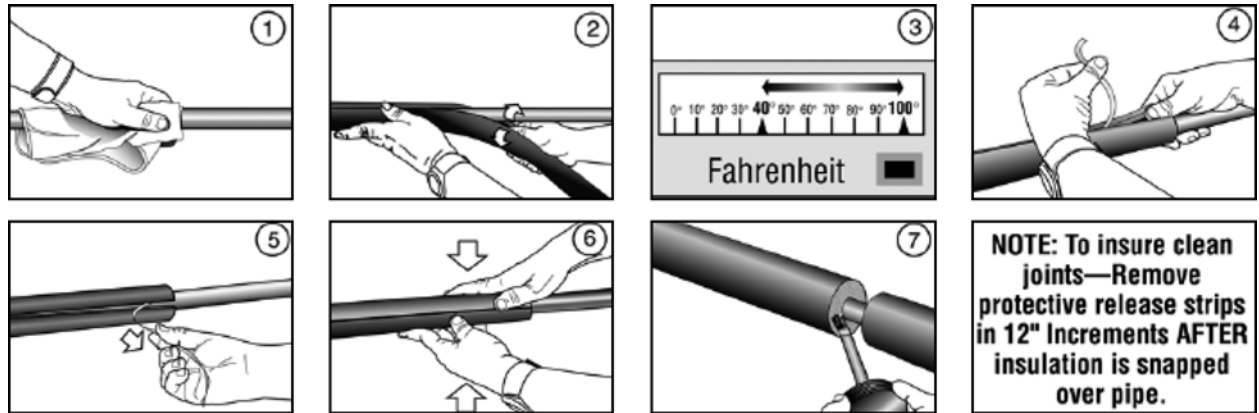

FIG. 4 Apply Pre-Slit/Pre-Glued Insulation to Straight Pipe
10.1.2 Use pre-slit/pre-glued insulation. (Insulation pre-slit with factory applied pressure sensitive adhesive (PSA)). See Fig. 4. Be sure application temperature and manufacturer’s installation temperature recommendations are in accordance.